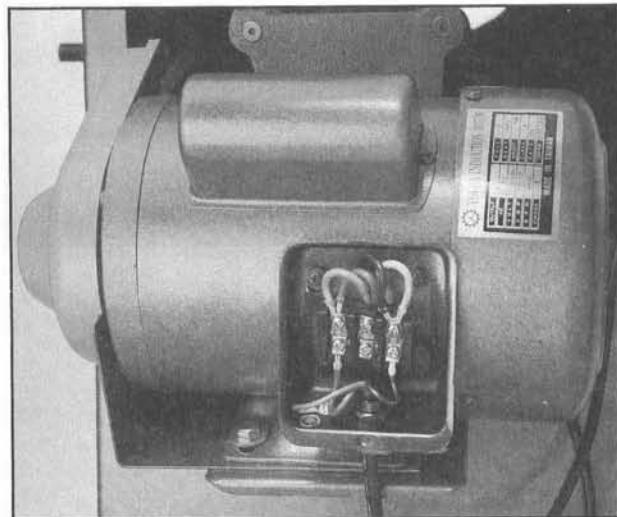

Figure 17.
2. Feed the cord from the switch through the strain relief in the junction box and connect the wires for 110V or 220V per the wiring diagram enclosed. **Figure 17.**